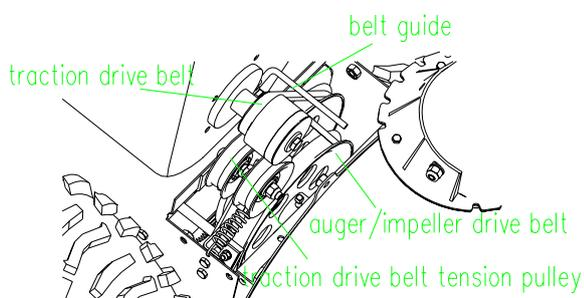

FIG 29
- 6.11.2 Loosen the flange-head bolts that hold the belt cover (FIG 29)
- 6.11.3 Remove the auger/impeller drive belt. (FIG 29)
- 6.11.4 Loosen the tension pulley. (FIG 29)
- 6.11.5 Remove the traction drive belt. (FIG 29)